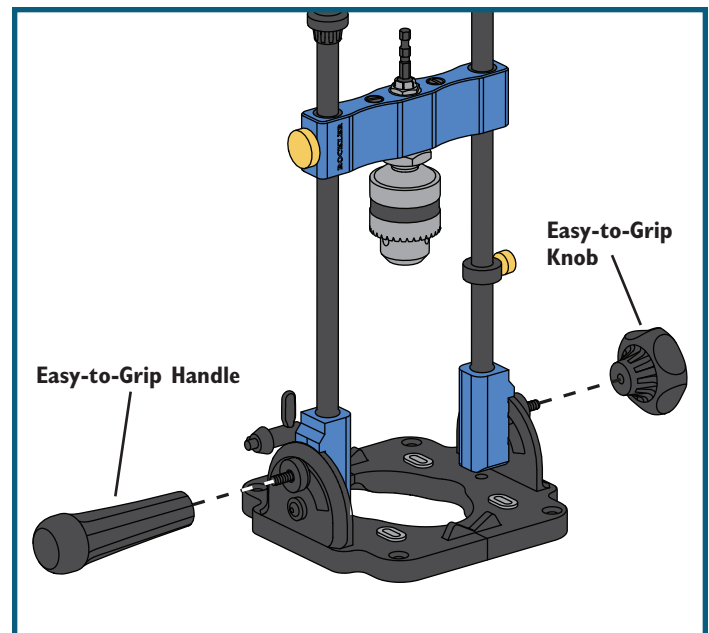

Fig. 2
3. Thread the Easy-to-Grip Handle onto the threaded stem on the side opposite the hand you will use to hold the drill. **Fig. 2.**
4. Thread the Easy-to-Grip Knob onto the other threaded stem. **Fig. 2.**